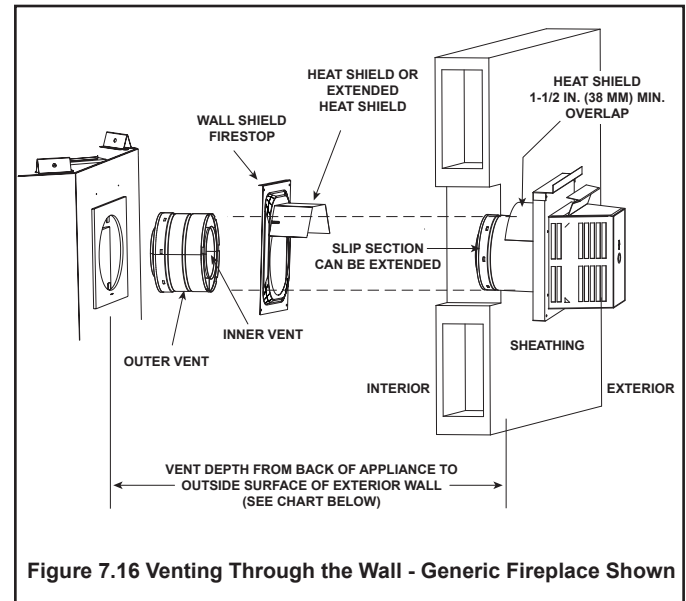

Figure 7.16 Venting Through the Wall - Generic Fireplace Shown
- **DO NOT** remove the heat shields attached to the wall shield firestop and the horizontal termination cap (shown in Figure 7.16).
There are two sections of the heat shield. One section is factory-attached to the wall shield firestop. The other section is factory-attached to the cap. See Figure 7.16.